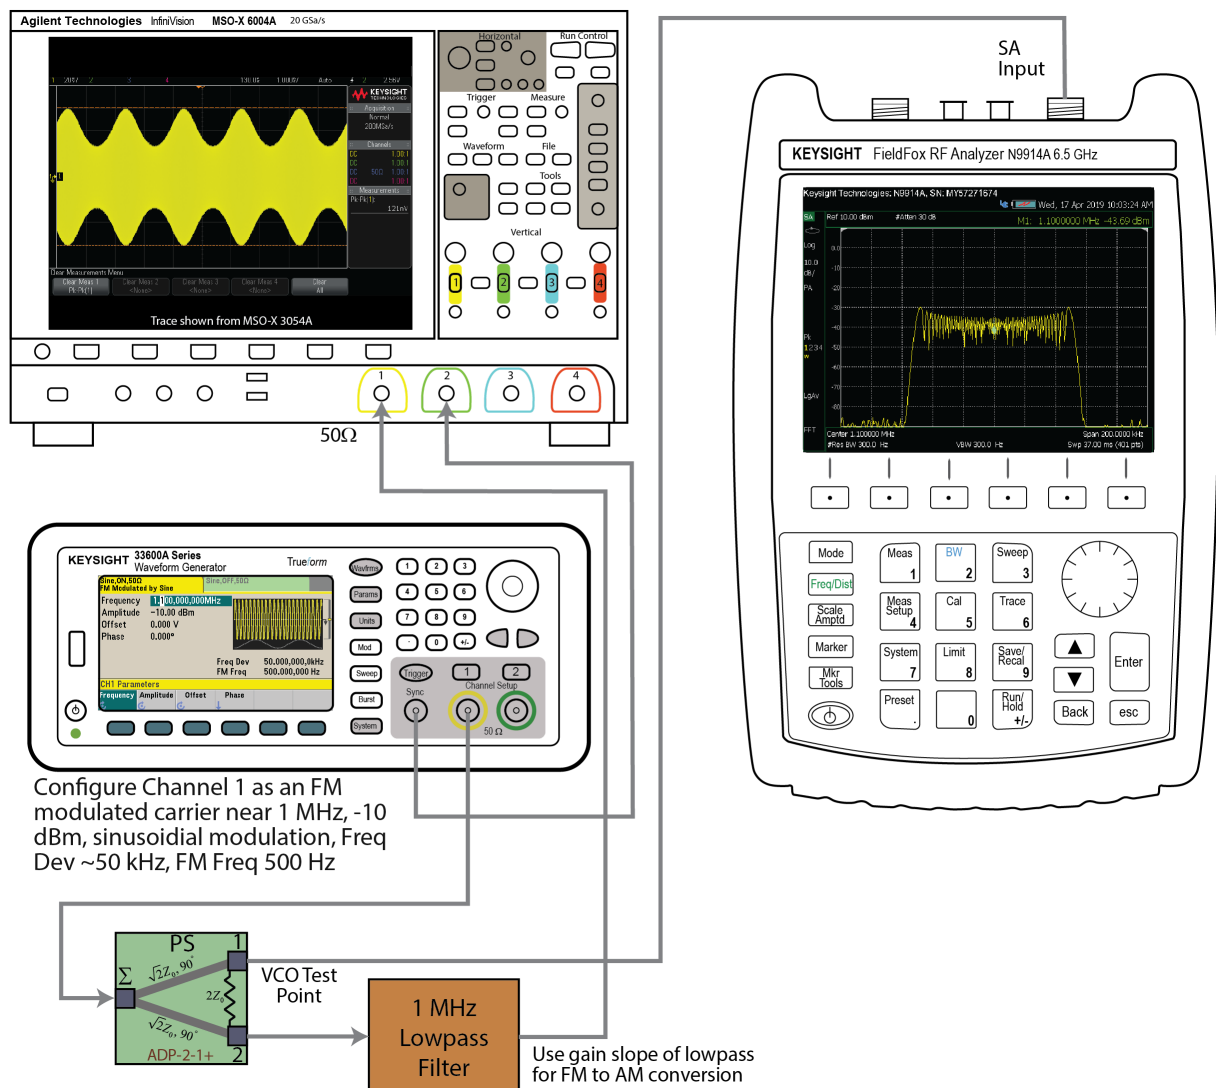

Figure 10: Slope detection using the gain slope of the 1 MHz lowpass to convert FM to AM.
1. Configure the test set-up of Figure 10 using the RF Board 1 MHz lowpass filter as a means to convert FM to AM. Due to component variations your filter response will be slightly different from the screenshots embedded in Figure 10.
2. Obtain results similar to those shown in Figure 10 by setting the carrier frequency somewhere above the filter cutoff, e.g. around 1.1 MHz, and use sinusoidal tone modulation with $f_m = 500$ Hz. Adjust the *Freq Dev to be around 50 kHz.